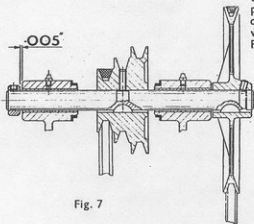

Fig. 7
d Slide the countershaft right through the remaining swing head bearing; place the fibre washer on the shaft and insert the second woodruff key at the extreme end of the countershaft (right hand end). Mount the vee pulley (4), and secure with the two socket grubscrews (5). Adjust the collar (6) to allow approximately .005" end float. See Fig. 7.
- d At the driving end of the shaft, place in position the thrust washer P.22, see parts list at rear of booklet, and countershaft pulley assembly including the clutch assembly, lining up the grub screws in the backplate P.14 with the dimples in the shaft P.75. Locate the backplate on the shaft by tightening one grub screw. Release and remove the sleeve nut P.7 and withdraw lever P.8 keeping adjusting collar P.2 attached to it. Tighten securely both grub screws in backplate P.14. Replace washer P.2, lever P.8 and sleeve nut P.7 and tighten nut. Adjust collar at lever end of countershaft to give .005" end float to shaft, see Fig. 7 page 9. Position lever pivot bracket on swing head with outer end flush with boss on swing head and tighten grub screws. Continue as 'e' etc. to the end on pages 9 and 10.
- c Check shaft for end float. See Fig. 7 page 9. Adjust the collar if necessary.